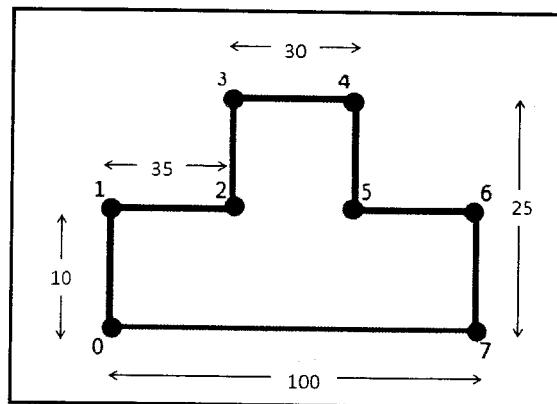

Figure 3c (ii) / Rajah 3c (ii)
- ii. Based on **Figure 3c(ii)**, construct a CNC program by using Absolute Method (coordinate x,y).